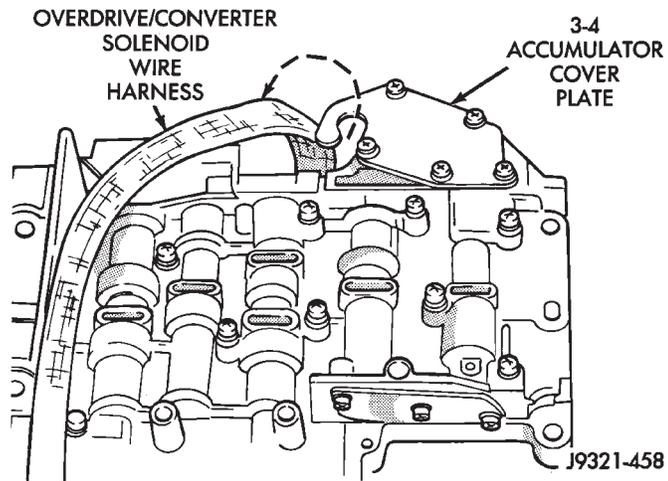

Fig. 66 Unhooking Solenoid Harness From Accumulator Cover Plate
- (9) Unhook overdrive/converter solenoid harness from 3-4 accumulator cover plate (Fig. 66).